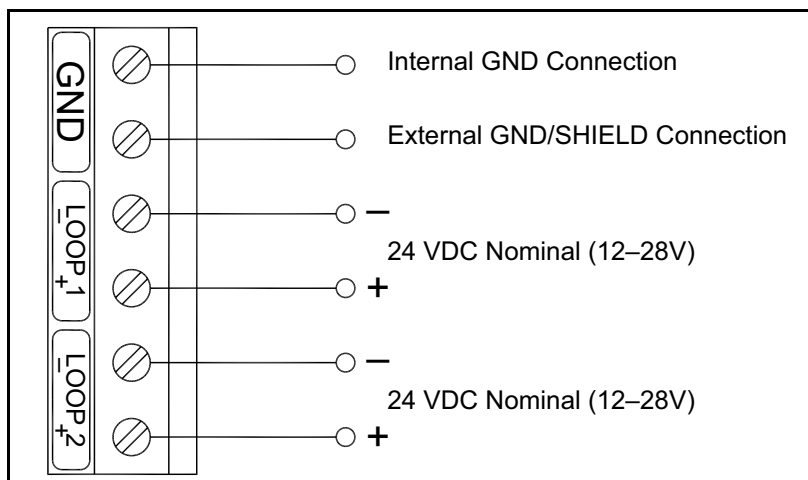

Figure 10: Electrical Connections - Two Current Loops
To wire the MMR31, refer to *Figure 10* below and complete the following steps:
5. Connect the wires to the MMR31 terminals as shown in *Figure 10* below.